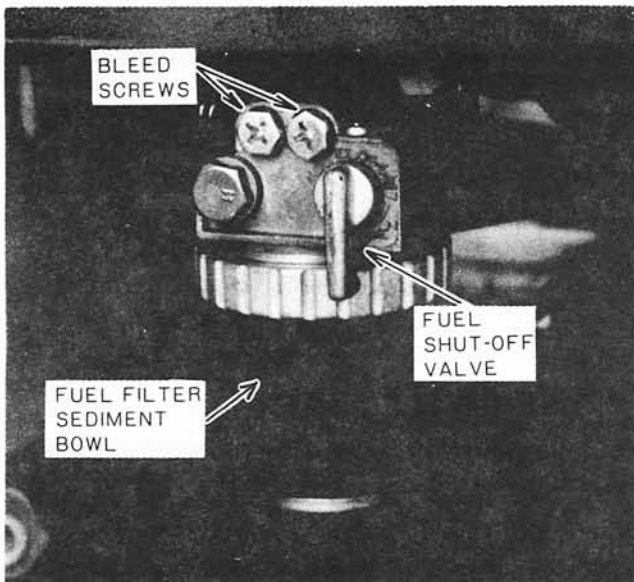

Figure 26 – Fuel Filter
1. Be sure there is adequate fuel in the fuel tank; close the fuel shut-off valve. Figure 26, then remove the fuel sediment bowl.
1. Close the shut-off valve, Figure 26.
3. Open the bleed screws at the top of the fuel filter (Figure 26) and let the air bubbles escape from the screws while cranking the engine. Then tighten bleed screws.